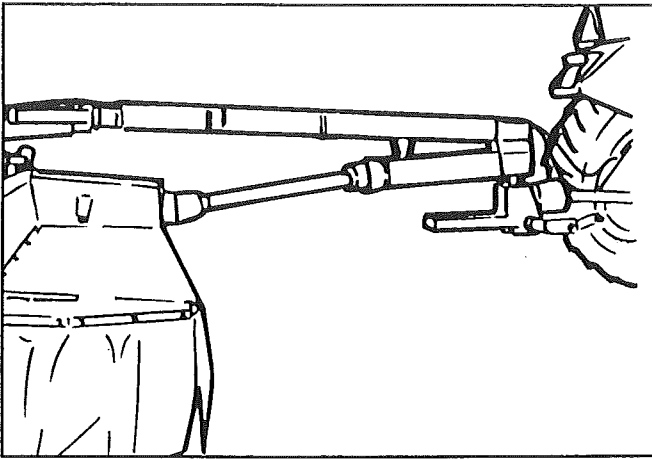

Fig. 1
- FIG. 1** Connect GMS/GCS to the tractor's lift arms. The dowels are intended for category II. For category III bushings can be supplied. The draw arms are adjusted to the same height and raised to a height where the PTO-shaft is straight.